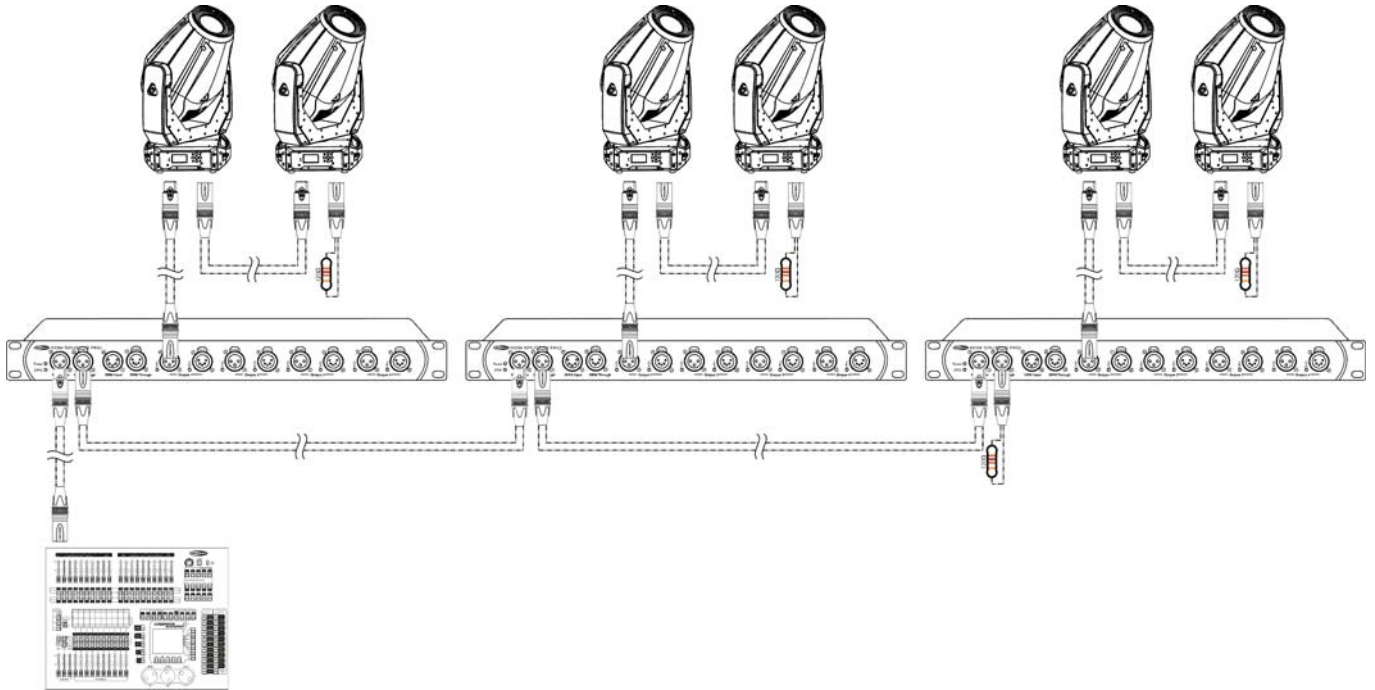

Fig. 03
04) Link the units as shown in fig. 03. Connect the first unit's DMX "link" socket with the second unit's "in" socket, using a DMX signal cable. Repeat this process to link the second, third, and fourth units.